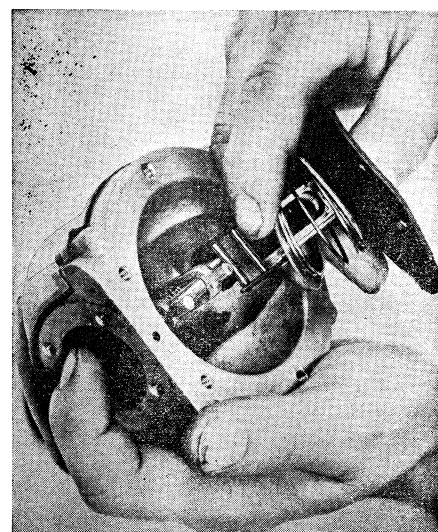

Fig. 15 Removing valve linkage
19. To take out diaphragm and triangular linkage, compress spring with fingers, Fig. 15.